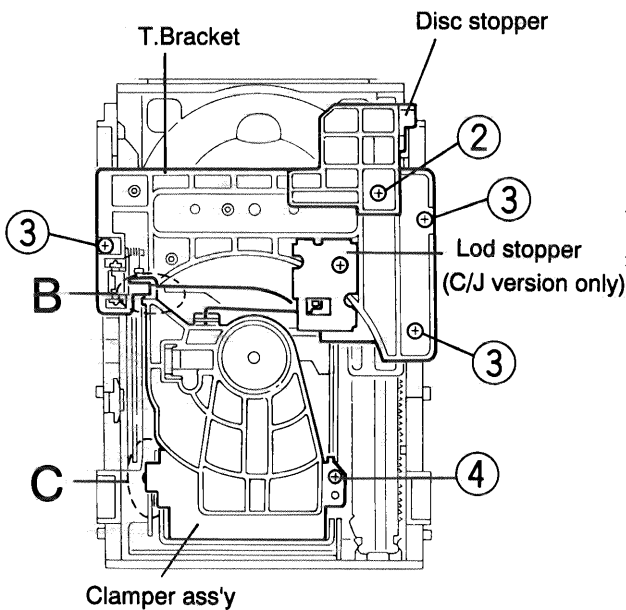

Fig.5-37
6. Remove the three screws ③ retaining the T. bracket (See Fig.5-37).